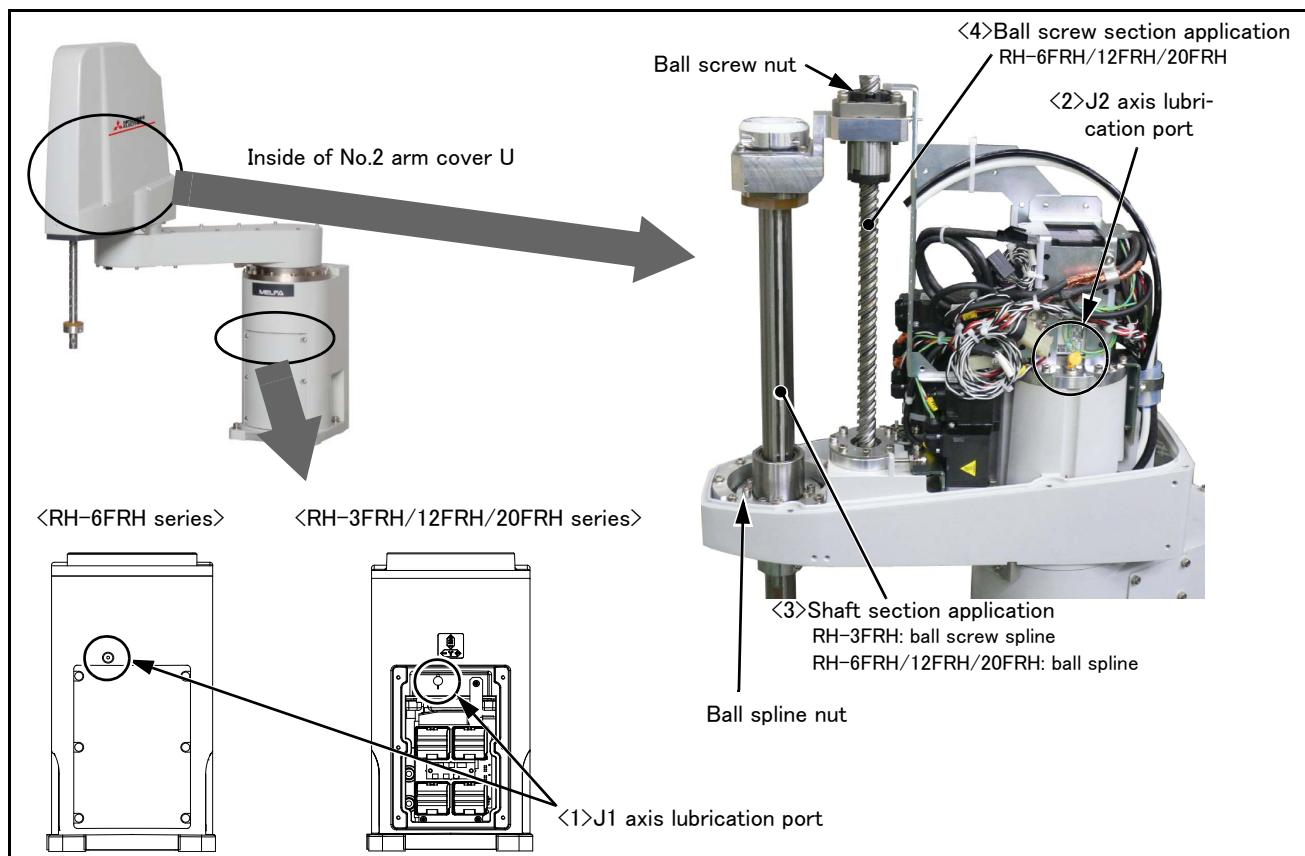

Fig.5-23 : Lubrication positions (RH-3FRH/6FRH/12FRH/20FRH series)
- The numbers in the Table 5-10 correspond to the supply positions in Fig. 5-23.